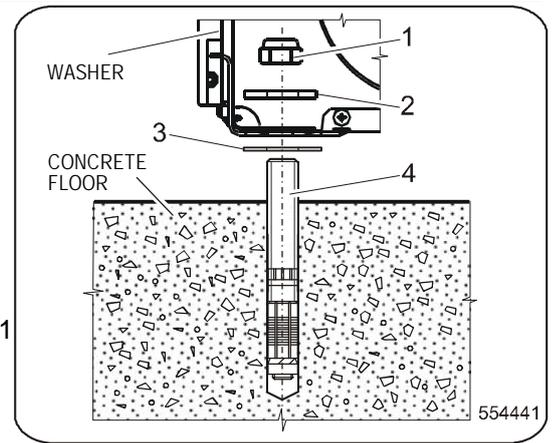
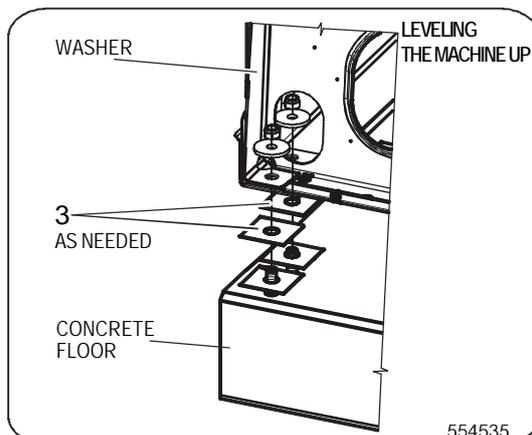

Figure 14 – Rigid-mount machines, Installation on floor
Figure 16 – Rigid-mount machines, 18-24-28 kg / 40-55-65 lb – medium spin
- Use spacing washers in order to install the machine in a level and stable manner in all its corners. See figure 16, 17.
- The drum of rigid-mount machines is fixed to the frame. The floor and steel base (if used) underneath the machine **MUST** be stable enough to be able to absorb the dynamic loads which are created during the spinning sequence, see the values for each machine specified in table 1, 2. Therefore, M16 anchor bolts - pos.4 – see figure 14 and 15 and washers  $\varnothing 60 / \varnothing 16.5 \times 6\text{mm}$  - pos.2 and M16 self locking nuts - pos.1 must be used so that the machine, the steel base (if used) and floor form one integral unit – see figures 14 and 15.
- Check that the machine is installed in a level and stable manner in all its corners. If necessary, level it up by means of stainless or galvanised spacing washers, see figures 14, 15, 16, 17, pos.3 (washers are not supplied with the machine) inserted in between the machine frame and the floor – see figures 16, 17. The dimensions of the spacers must be the same as the dimension of the machine frame in the place where the anchor bolts are located – 80x80mm.